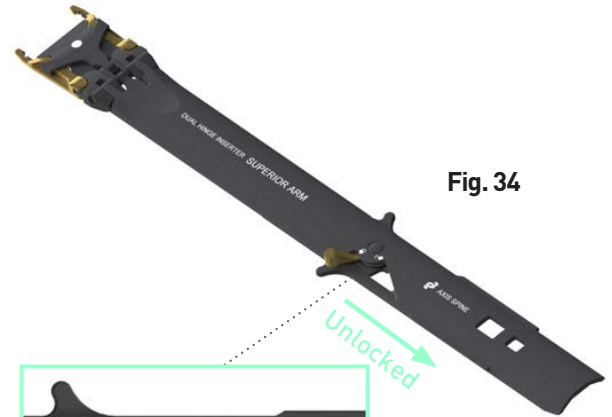

Fig. 34
- Rotate the levers to the **fully** unlocked position on both the inferior and superior arms to allow the Inserter grippers to open and detach from the endplates (Fig. 34).